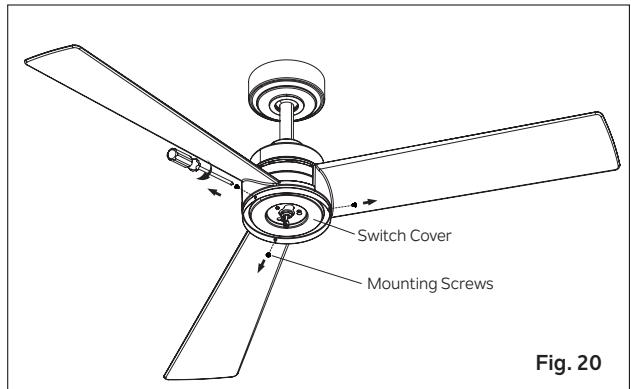

Fig. 20
Step 1. Remove the three preinstalled mounting screws from the outside edge of the switch cover. Retain mounting screws. **(Fig. 20)**